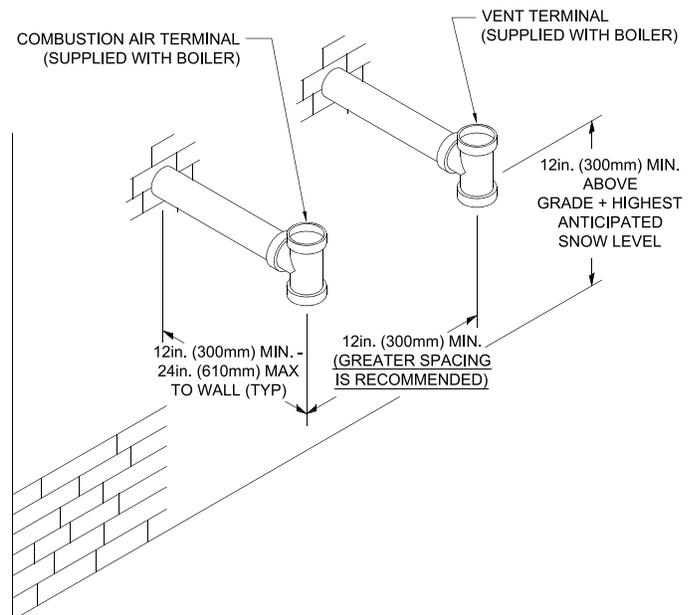
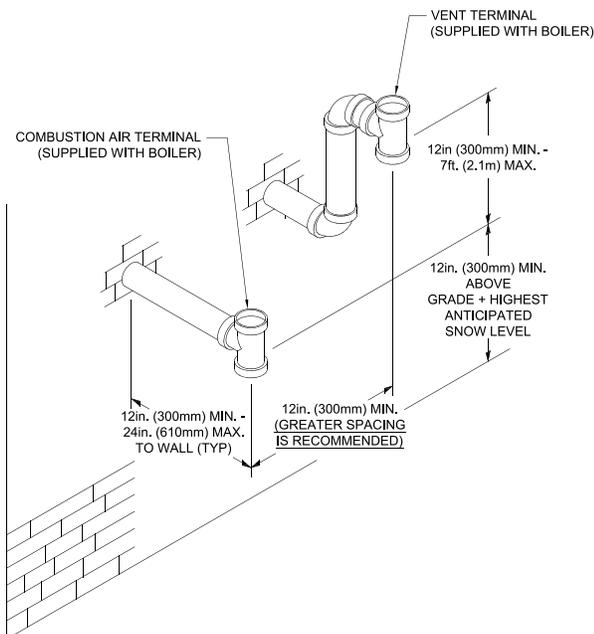
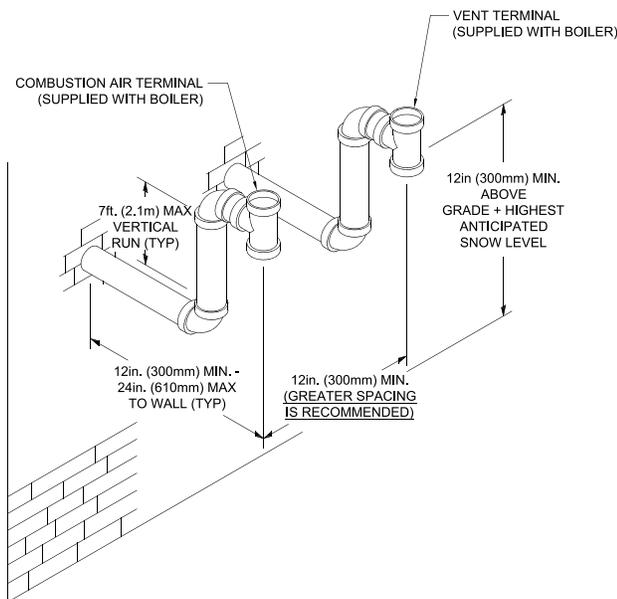

Figure 5: Direct Vent - Sidewall Tee Terminations
Figure 6A: Direct Vent - Optional Vent Sidewall Snorkel Termination
Figure 6B: Direct Vent - Optional Vent and Combustion Air Sidewall Snorkel Terminations
- i. Horizontal Sidewall Venting: Use tee terminals for both vent and combustion air as shown in Figure 5. Alternate snorkel terminations are shown in Figure 6A and Figure 6B.
- See Table 7B for CPVC/PVC installer provided vent and combustion air components required for optional horizontal snorkel terminals shown in Figure 6B.